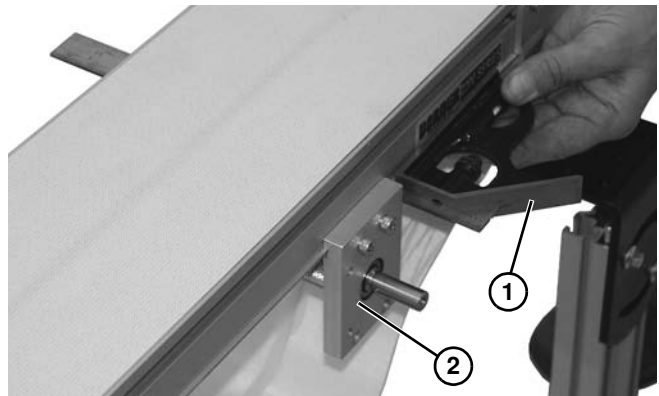

Figure 76
9. Be certain to use a square (**Figure 76, item 1**) across mounting blocks (**Figure 76, item 2**), so blocks are aligned to one another, before tightening hardware.